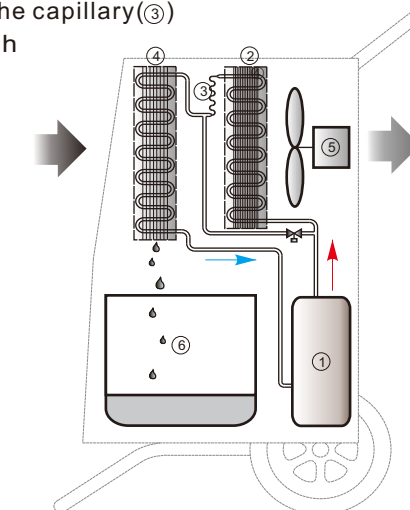

FIG. 1
(See FIG.1) MDR dehumidifiers are designed based on the refrigeration circulatory system. Inside this hermetic system, the compressor(1) pumps and compresses refrigerant to high temperature gas, and send to the condenser(2). After heat exchange and pass through the condenser, the gas is throttled in the capillary(3) then it turns to low temperature liquid status, then it passes through evaporator(4), evaporates and returns to the compressor. The ventilator(5) draws moist air through the refrigerated surface of evaporator which cools it below the dew point, removing moisture which is collected and lead away to water tank(6). The cool air then passes over the hot condenser, where it is reheated. Then the air is discharged into the room at a little higher temperature but a lower relative humidity than when the air entered the unit. Continuous circulation of the room air through the dehumidifier unit gradually reduces the relative humidity in the room.